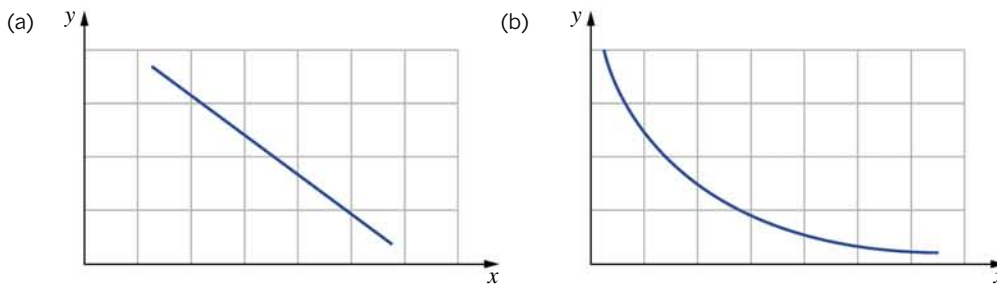

FIGURE 21.3.3 An inverse relationship in which one variable decreases in response to the other variable increasing. It may be (a) direct or (b) non-linear.
- When there is an inverse relationship, one variable increases as the other variable decreases (see Figure 21.3.3).